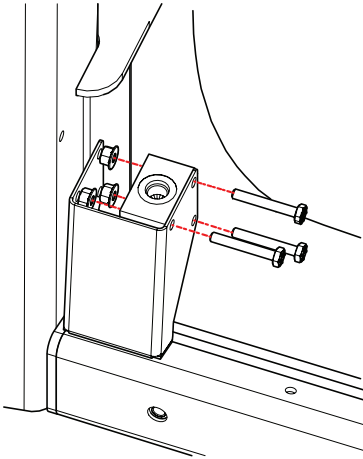

Figure 25: Install the replacement PRD to the bracket using the existing bolts and nuts.
2. Attach the replacement PRD to the bracket using the retained (3) bolts and nuts (Figure 25).